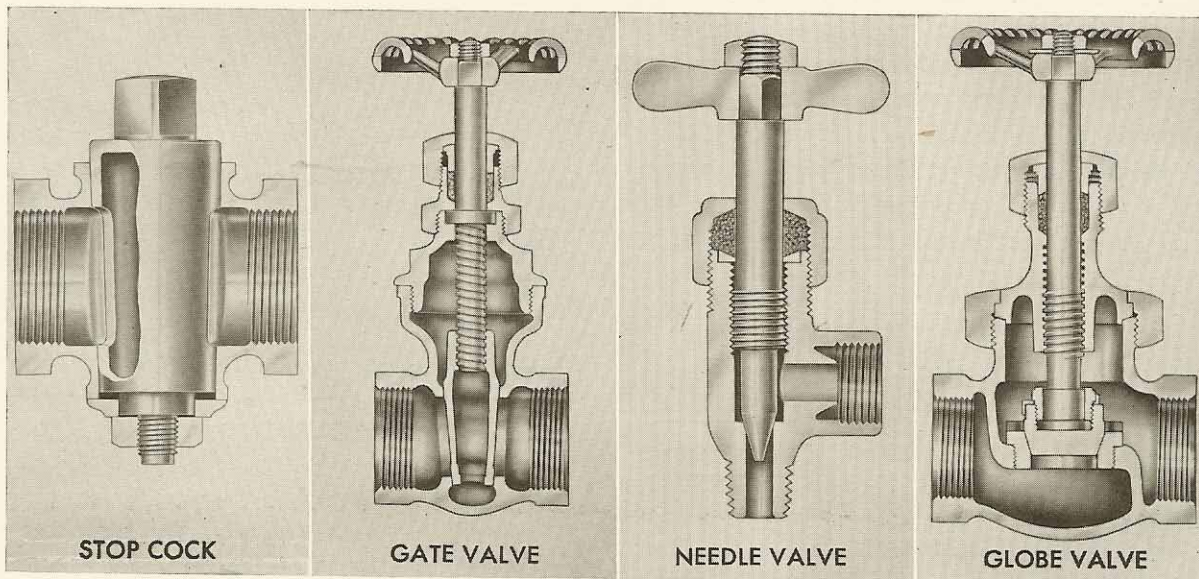

FIGURE 8-31
48. VALVES: Flow is shut off or turned on in pipe lines by fittings called valves, of which there are several types as shown in Figure 8-31.